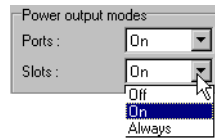

Figure 2-5. Select Power Output Modes – Slots
7. Select the **Power output modes Slots** drop-down list to set power output on internal slots (Figure 2-5).